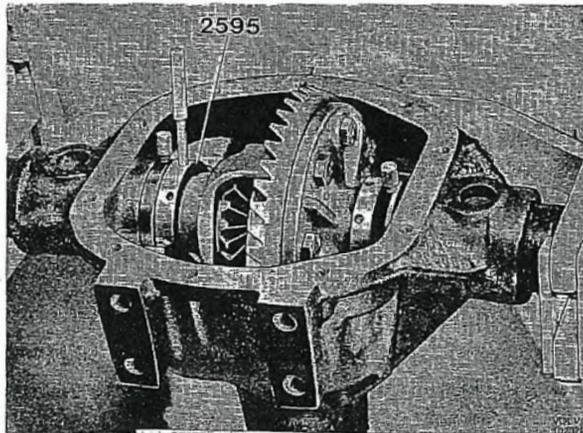

Fig. 4-156. Adjusting rings for differential
1. Lubricate the inside of the adjusting rings 2595 and put them on the differential carrier. The ring with the black-oxidized adjusting ring should be placed on the crown wheel side. Also lubricate the bearing location in the carrier. Place the differential carrier and the adjusting rings in the final drive housing, see Fig. 4-156. Use the dial indicator and adjust in the rings so that the correct backlash 0.15 mm (0.006") is obtained. The tooth flank clearance may vary between 0.13 mm (0.005") and 0.20 (0.008"), but should be kept as near 0.15 mm (0.006") as possible. Tighten the lock screws in the adjusting rings.